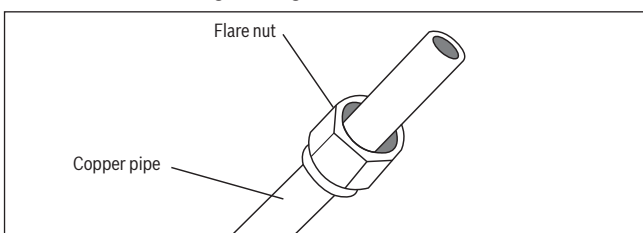

Fig. 30.
3. Place flare nuts on both ends of pipe. Make sure they are facing in the right direction, because you cannot put them on or change their direction after flaring. See Fig. 30